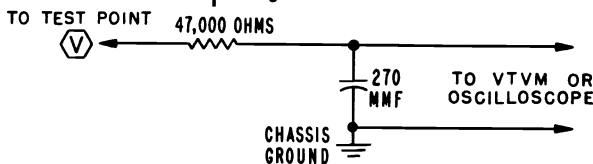
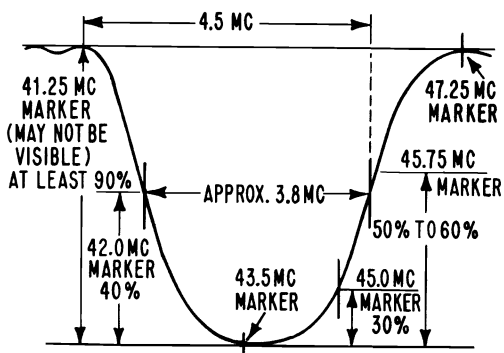

Figure 9. Decoupling Filter.
Figure 10. Ideal IF Response Curve.
- Connect VTVM high side to test point "V" through a decoupling filter, see figures 9, 12 and 13.
| Set Channel Selector on channel 3 or an unassigned low channel. Contrast control fully to the left. Connect negative of 3 volt bias supply to test point "T" (IF AGC); positive to chassis. | Connect high side to 6CG8 mixer-osc. insulated tube shield, see fig. 7. Connect low side to chassis near tube shield. Set sweep frequency to 43 MC, and sweep width approximately 7 MC. | If an external marker generator is used, loosely couple high side to sweep generator lead on tube shield, low side to chassis. Marker frequencies indicated on IF Response Curve. | Connect high side to test point "V" thru a decoupling filter, see figs. 9, 12 and 13. | Check curve obtained against ideal response curve in fig. 10. Note tolerances on curve. Keep marker and sweep outputs at very minimum to prevent overloading. A reduction in sweep output should reduce response curve amplitude without altering the shape of the response curve. If the curve is not within tolerance or the markers are not in the proper location on the curve, touch-up with IF slugs as instructed below. |